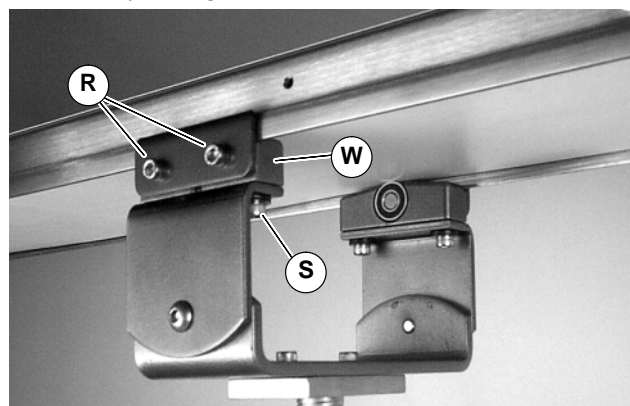

Figure 15
3. Install assemblies (W of Figure 15) on bottom of conveyor. Tighten bracket screws (R) to 9 Nm.